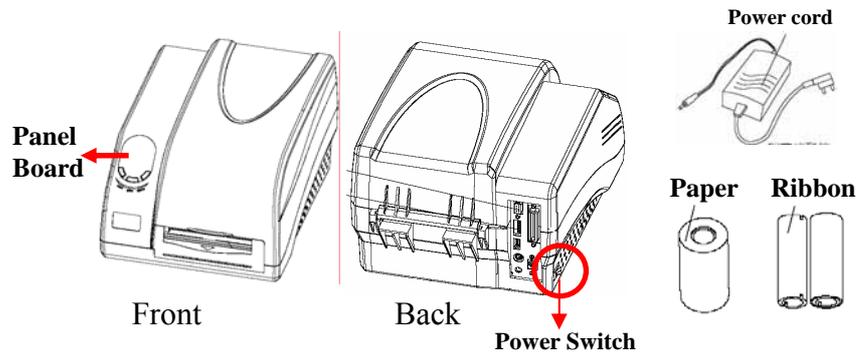

Figure 4
2. Turn on the BAR CODE PRINTER power switch (Refer to figure 4) : When READY、MEDIA、 RIBBON those three indicator lights are lighted up, the machine starts successfully. Also, the BAR CODE PRINTER is at standby condition.
(1) Indicator lights explanation :
- ①READY indicator light : When it lights up, it's in normal condition, and it's standby to print.
- ②MEDLA indicator light : When it lights up, it in normal condition.
- ③RIBBON indicator light : During thermal transmission condition.(Need to install a ribbon)
(2) BAR CODE PRINT outside appearance , Please refer to figure 4 :